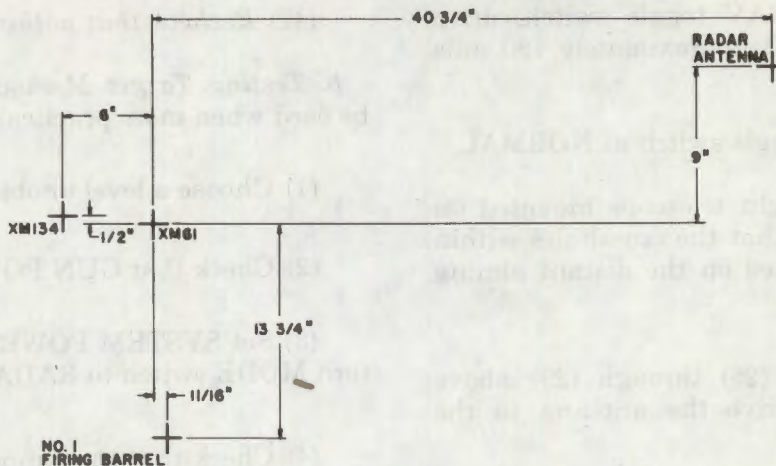

Figure 4-2. Boresight target.
(7) If the radar antenna was unstowed, check to see that MODE switch is set at NORMAL, and MAINT switch at ON.
(8) Position the target (fig 4-2) approximately 1,000 inches from the muzzle of the cannon. (This distance may be paced as 34 paces.)